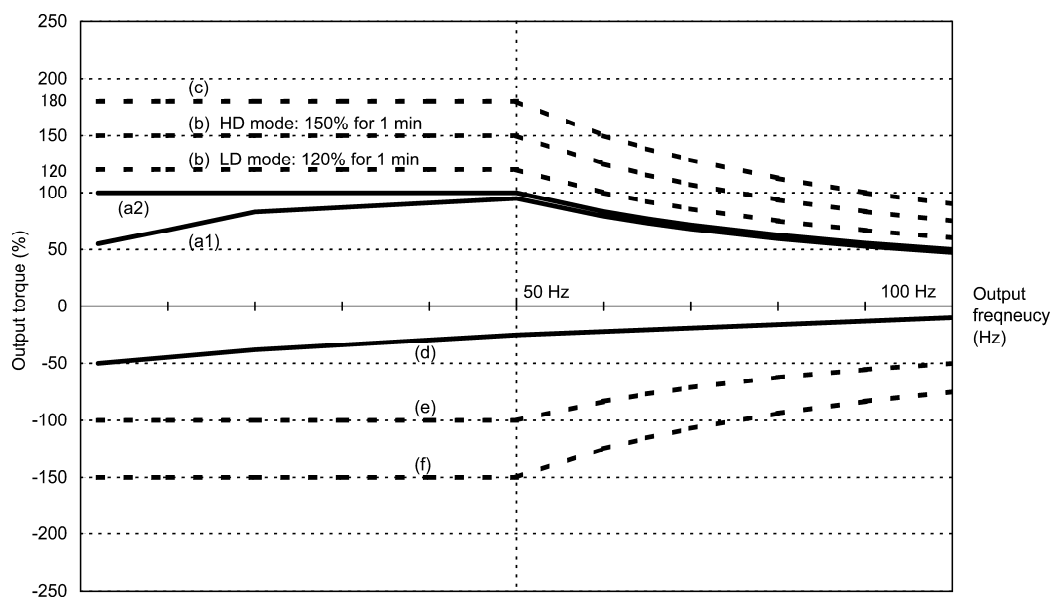
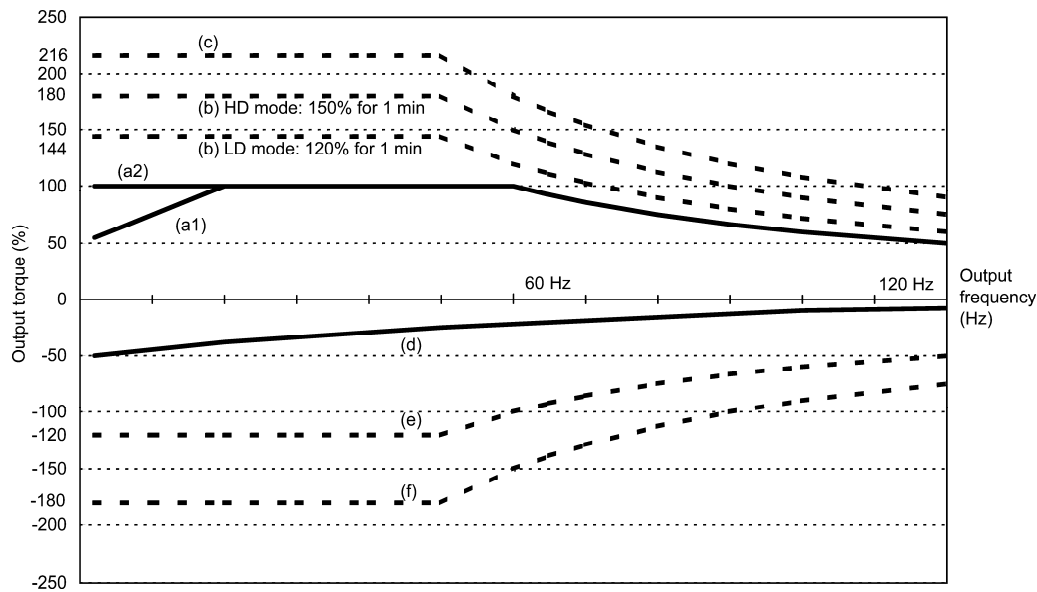

Figure 10.1-1 Output Torque Characteristics (Base frequency: 50Hz)
Figure 10.1-2 Output Torque Characteristics (Base frequency: 60Hz)
Figures 10.1-1 and 10.1-2 graph the output torque characteristics of motors at the rated output frequency individually for 50 Hz and 60 Hz base. The horizontal and vertical axes show the output frequency and output torque (%), respectively. Curves (a) through (f) depend on the running conditions.
1) Standard motor (Curve (a1) in Figure 10.1-1 and Figure 10.1-2)
2) Motor exclusively designed for vector control (Curve (a2) in Figure 10.1-1 and Figure 10.1-2)
(2) Maximum driving torque in a short time (Curves (b) and (c) in Figure 10.1-1 and Figure 10.1-2)
(3) Starting torque (around the output frequency 0 Hz in Figure 10.1-1 and Figure 10.1-2)
(4) Braking torque (Curves (d), (e), and (f) in Figure 10.1-1 and Figure 10.1-2)